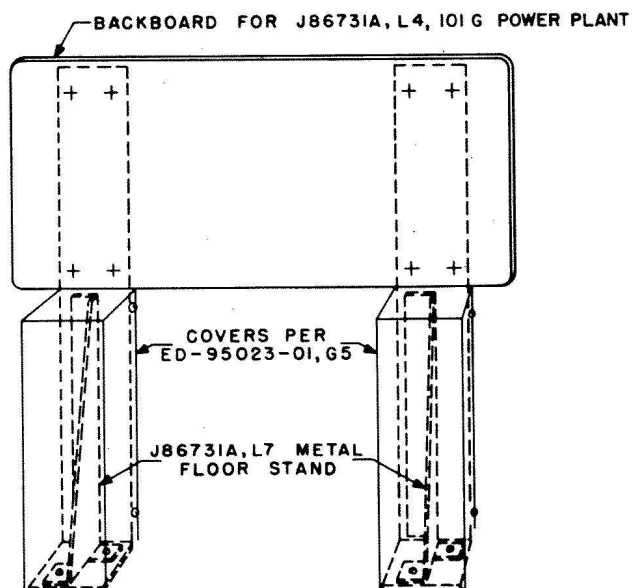

Fig. 5 — Floor Stand for J86731A, List 4 Power Plant
4.05 The J86731A, List 7 metal stand (see Fig. 5) consists of two metal legs, and is used to floor-mount a J86731A, List 4 power plant. Where appearance is important, the exposed portion of the metal legs may be covered with the ED-95023-01, Group 5 cover.